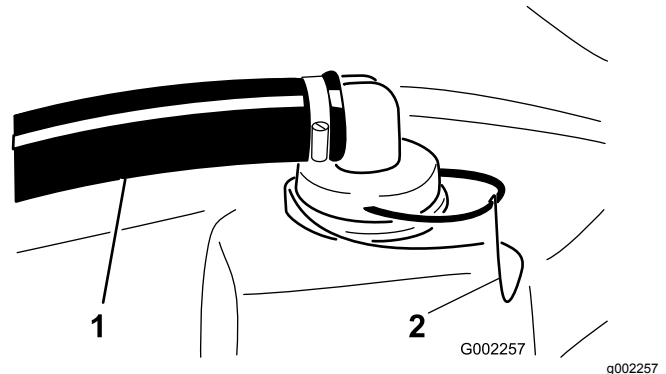

Figure 41
2. At the top of the sprayer tank, remove the retainer that secures the hose fitting attached to the large hose and the strainer housing (Figure 41).
3. Remove the hose and hose fitting from the strainer housing (Figure 41).